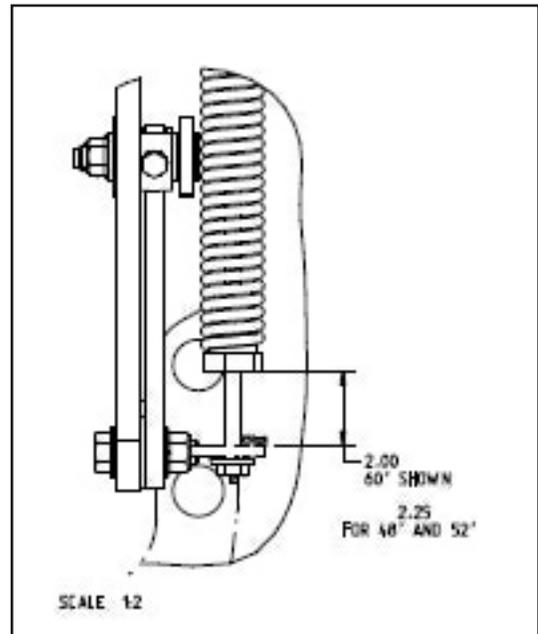

Figure 15
11. Attach the spring to the bolt and place cupped washer (cup washer facing bolt head) on tap screw. Place through frame and tighten (Figure 15).